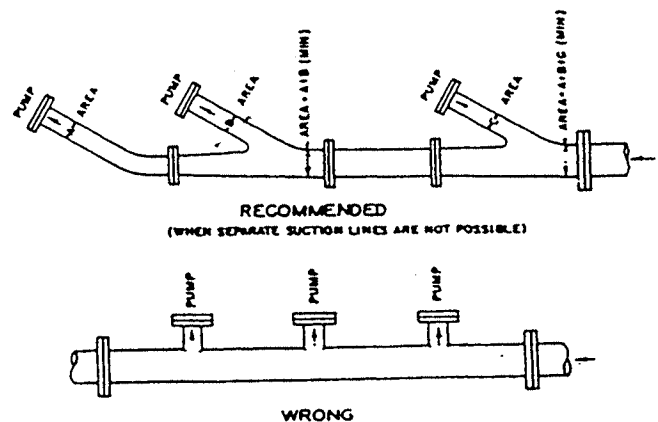

Figure 17
6. Separate suction lines should be used when more than one pump is operating from the same source of supply. If it is not possible to have separate lines, piping arrangement shown in Fig. 17 is recommended.